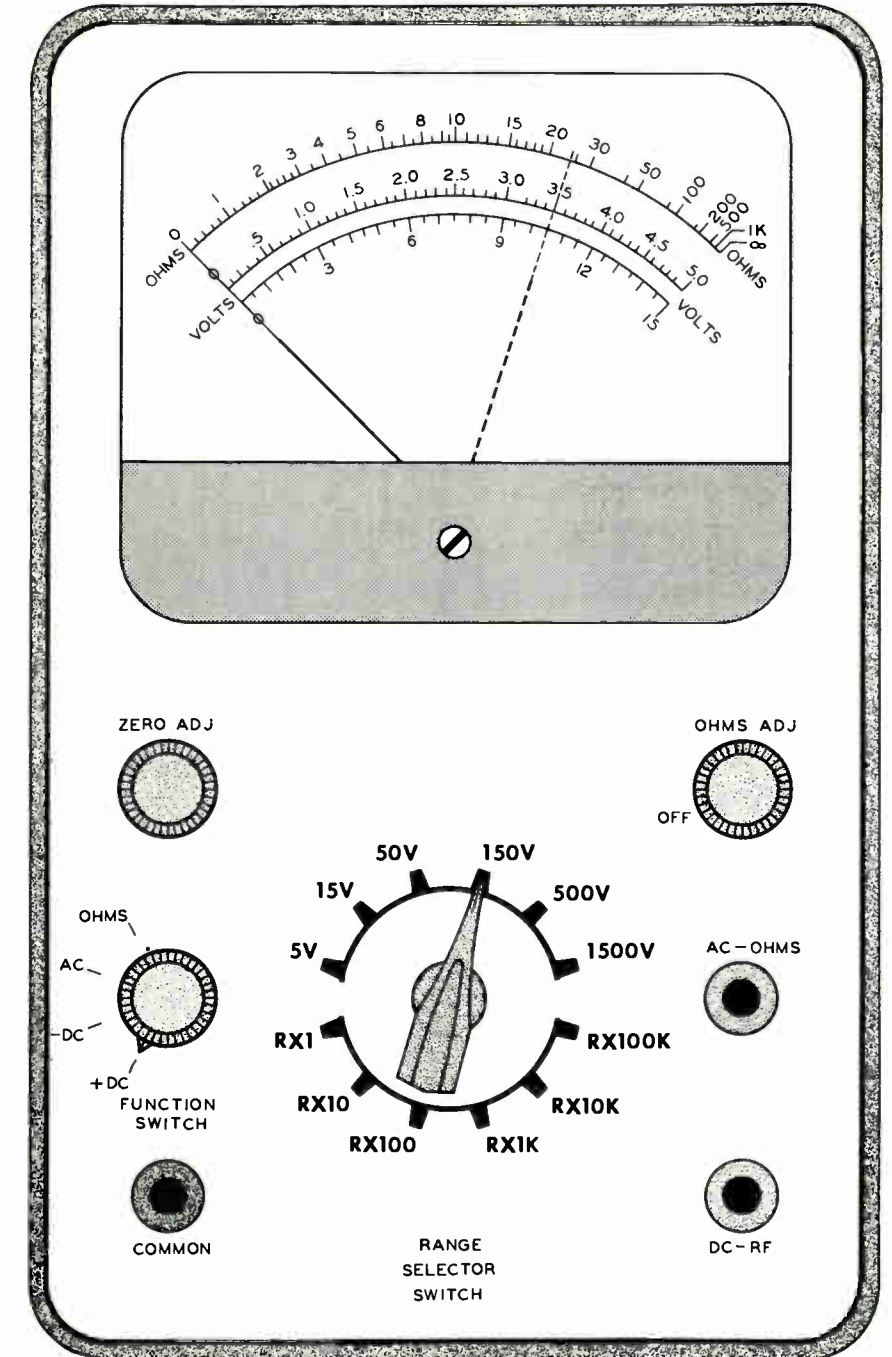

FIGURE 4
35. (b) the transistorized multimeter of Figure 11. -- The VTVM of Figure 4 can only measure + or - dc voltage, ac voltage, and resistance.